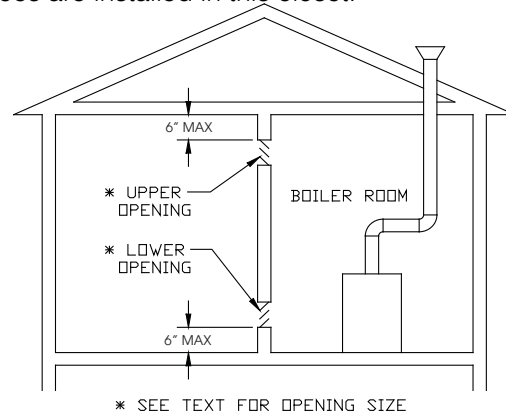

Figure 6-1: Indoor Combustion Air Method
D. If the result is at least 50 ft.³ per 1,000 BTU/hr, and none of the conditions described in (6) below are met, normal infiltration should provide adequate fresh air into the boiler room.
E. If the result is less than 50 ft.³ per 1,000 BTU/hr, provide two openings into the boiler room, one near the floor and one near the ceiling. The top edge of the upper opening must be within 6 in. of the ceiling and the bottom edge of the lower opening must be within 6 in. of the floor (Figure 6-1):
Although combustion air is supplied through the air intake piping, ventilation air is still required around the boiler to prevent overheating of boiler components. If the boiler is installed in a closet, provide two openings in the closet, each having a net free area of 100 square inches as shown in Figure 6-1. Note that these openings are independent of the boiler size. Additional area may be required if other fuel burning appliances are installed in this closet.